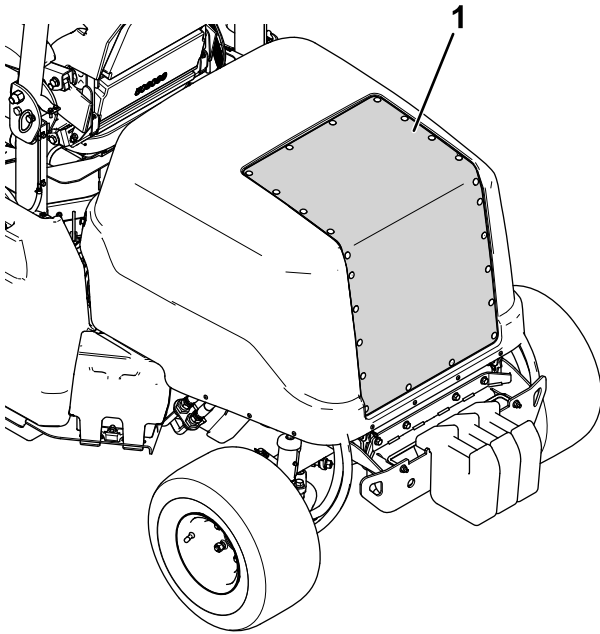

Figure 68
2. Use compressed air to clean the hood screen (shown in Figure 68). Direct the air out from the machine.